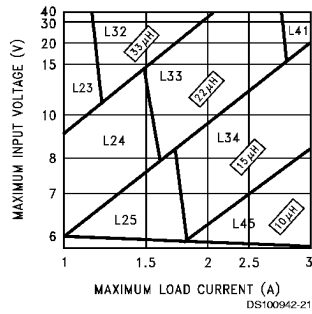
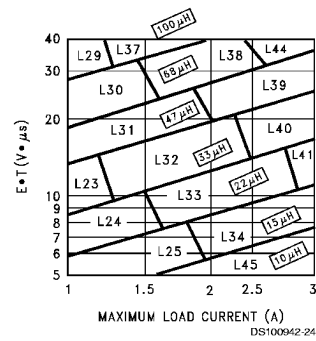

FIGURE 3. LM2670-3.3
FIGURE 6. LM2670-ADJ
Step 3: Determine the inductor required by using one of the four nomographs, *Figure 3* through *Figure 6*. Table 1 provides a specific manufacturer and part number for the inductor.
Step 5: Determine an input capacitor from Table 4 for fixed output voltage applications. Use Table 2 to find the specific capacitor type. For adjustable output circuits select a capacitor from Table 2 with a sufficient working voltage (WV) rating greater than $V_{in\ max}$, and an rms current rating greater than one-half the maximum load current (2 or more capacitors in parallel may be required).
Step 3: Use the nomograph for the 3.3V device, *Figure 3*. The intersection of the 16V horizontal line ($V_{in\ max}$) and the 2.5A vertical line ($I_{load\ max}$) indicates that L33, a 22 μ H inductor, is required.
Step 3: To use the nomograph for the adjustable device, *Figure 6*, requires a calculation of the inductor Volt*microsecond constant ($E \cdot T$ expressed in $V \cdot \mu s$) from the following formula:
Using *Figure 6*, the intersection of $27\text{V} \cdot \mu\text{s}$ horizontally and the 2A vertical line ($I_{\text{load max}}$) indicates that L38, a $68\mu\text{H}$ inductor, should be used.
Important Note: When using the adjustable device in low voltage applications (less than 3V output), if the nomograph, Figure 6, selects an inductance of $22\mu\text{H}$ or less, Table 6 does not provide an output capacitor solution. With these conditions the number of output capacitors required for stable operation becomes impractical. It is recommended to use either a $33\mu\text{H}$ or $47\mu\text{H}$ inductor and the output capacitors from Table 6.